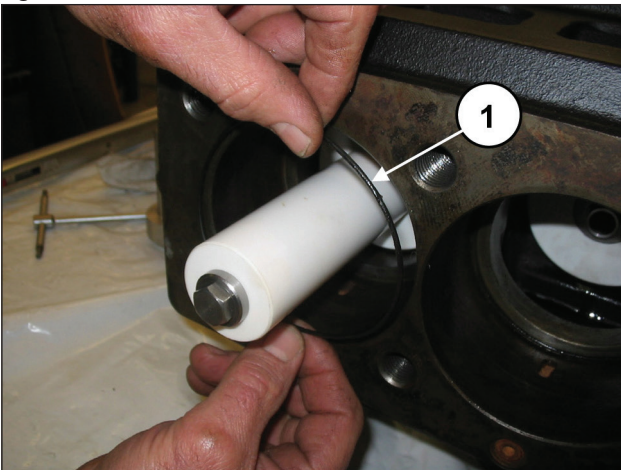
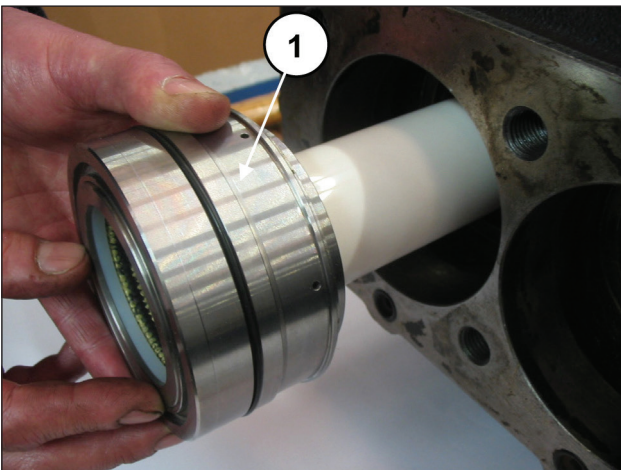

Fig. 184
Fig. 185
Insert the O-ring inside the pump casing (pos. ①, Fig. 184) and then the previously-assembled liner-seal support block (complete with the same O-ring) to end stroke (pos. ①, Fig. 185).